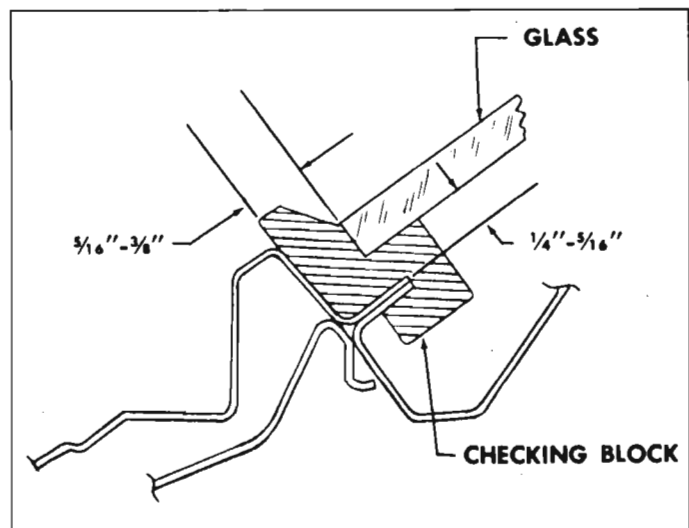

Fig. 10-34—Windshield Opening Check
6. With windshield glass supported and centered in the body opening by checking blocks, check relationship of glass to body opening around entire perimeter of glass. Figure 10-34 shows a typical section taken through the glass channel and body opening. Check glass to body relationships as follows: